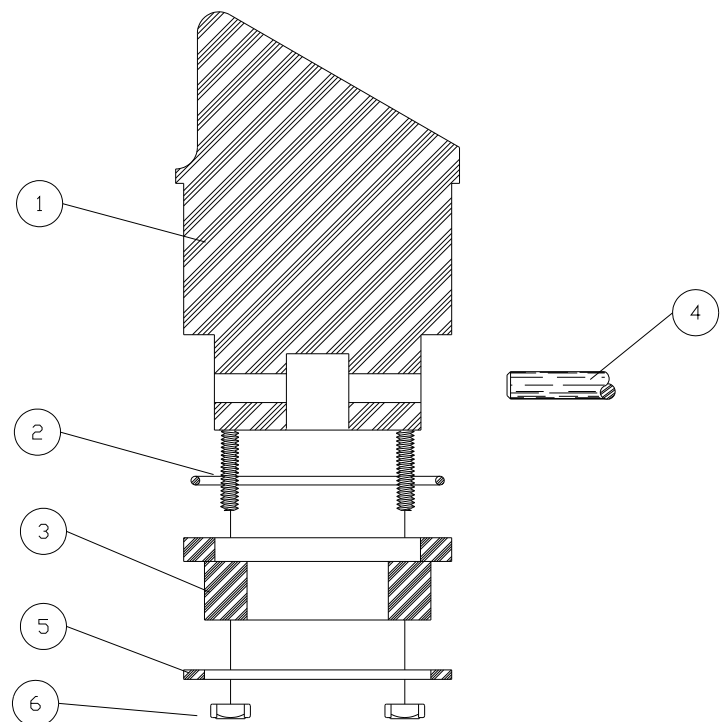
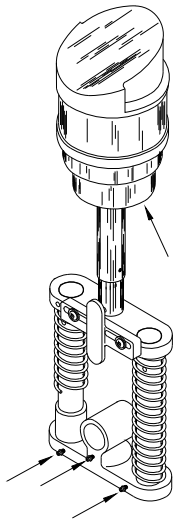

FIGURE 4
FIGURE 2
TO DISMANTLE PISTON IN FIGURE 4, REMOVE THE SIX HEX NUTS (6), SLIP RING (5) DOWN AND OFF, THEN WITH SLIGHT PRESSURE, PUSH PISTON RING (3) OFF PISTON, REMOVE WRIST PIN (4) AND RUBBER "O" RING (2). WHEN REASSEMBLING THE PISTON, A VERY IMPORTANT STEP IS TO MAKE SURE THE SIX NUTS (6) ARE NOT OVERLY TIGHTENED, MERELY SNUG. AS THE RING WEARS OVER A PERIOD OF TIME, CONTINUE TO SNUG UP THE SIX NUTS. THIS PROCEDURE WILL NOT ONLY PROVIDE LONG LIFE TO THE PISTON RING BUT WILL MAINTAIN FULL VACUUM.
THE PISTON AND SPRING LOAD ASSEMBLY HAVE A TOTAL OF (4) GREASE FITTINGS, (FIG. 2). THREE (3) OF THESE FITTINGS ARE FOUND ON THE LOWER CASTING OF THE SPRING LOAD. APPLY A SMALL AMOUNT OF GREASE TO THESE FITTINGS ONCE A WEEK. THE SAME PROCEDURE SHOULD BE FOLLOWED FOR THE GREASE FITTING UNDER THE PISTON, (FIG. 4). THIS FITTING IS LOCATED ON THE TOP OF THE OUTSIDE CONNECTING ROD, (PART NO. 322PY).